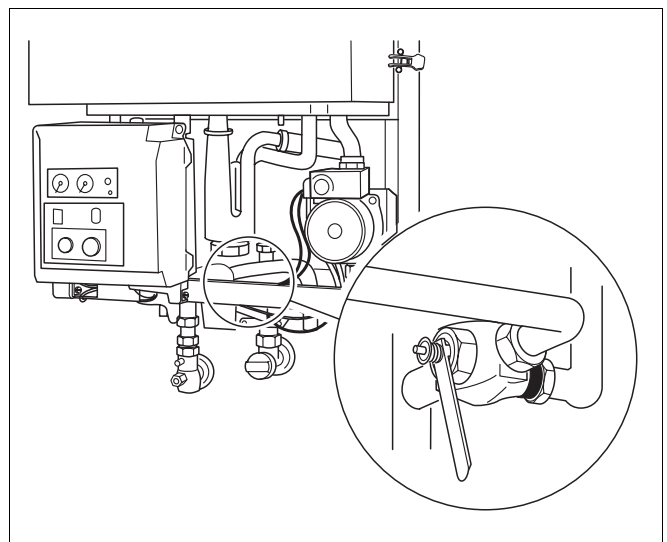

Fig. 86 600 Series 11S / 19S / 24S / 24C:
- Remove the control valve with a spanner and fit a new unit (fig. 86).